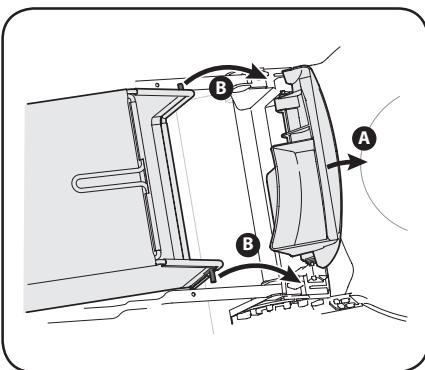

Figure 2-8
- Follow steps below to attach grass catcher: See Figure 2-8.